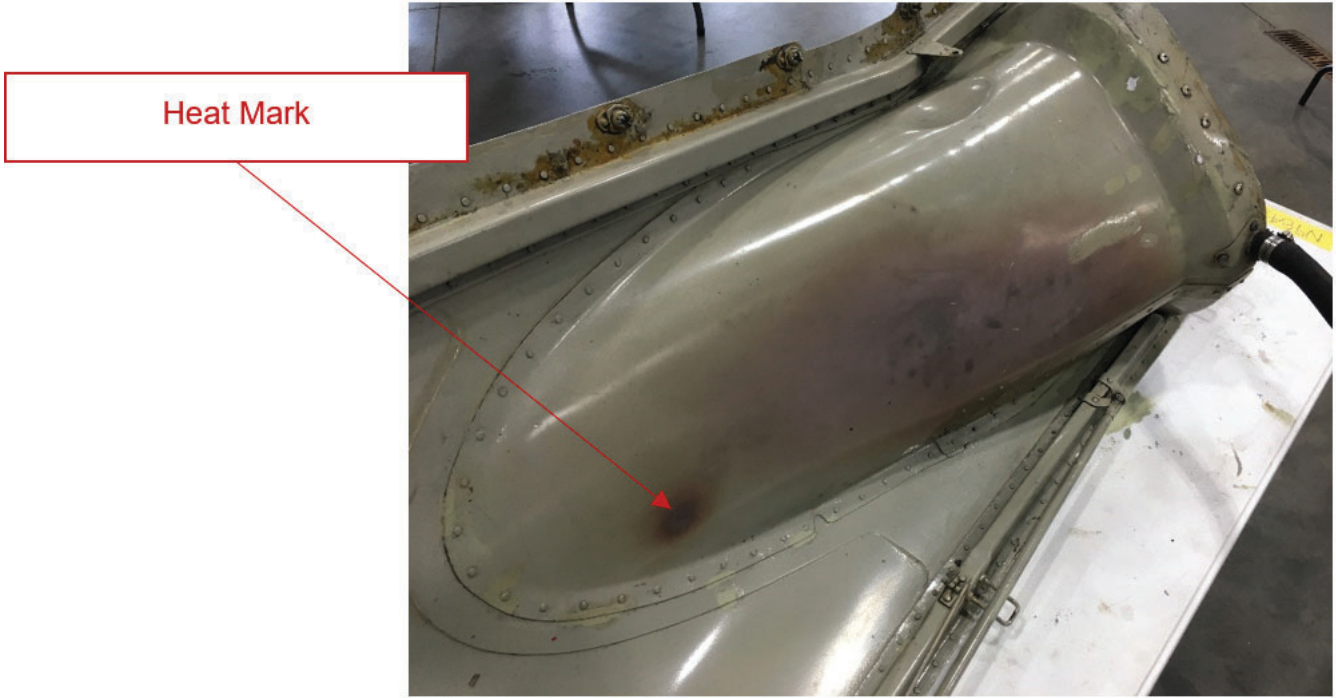

Figure 2 - Lower Right Cowl - Interior
3. Open right hand cowl door; inspect inner cowl panel for heat marks as shown in Figure 2.